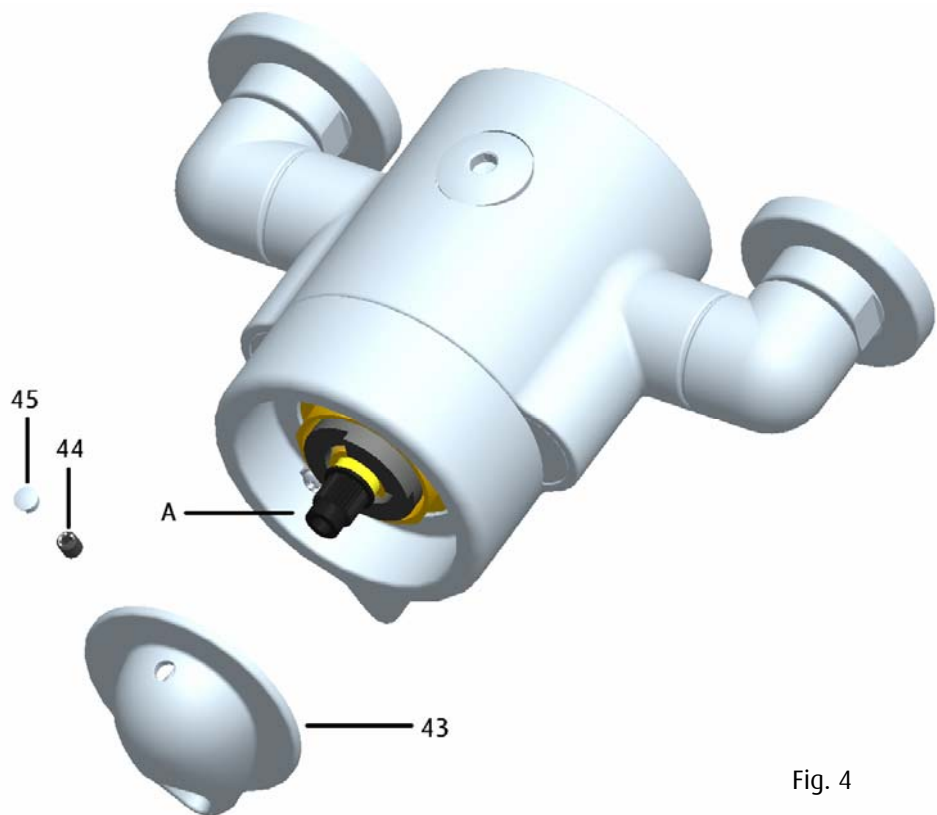

Fig. 4
5.4 See Fig. 4 below, remove the temperature control handle (43) by removing the cap (45), loosen the grub screw (44) and pulling the handle (43) off the spindle (A).